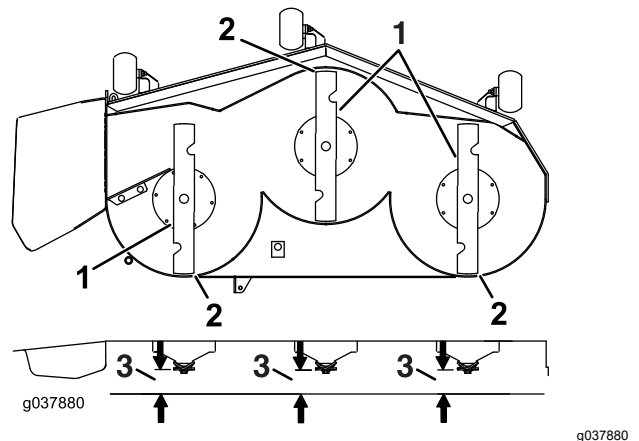

Figure 74
7. Check the front-to-rear blade level (Figure 74). Ensure the front blade tip is lower than the rear blade tip as shown in the block height and rake table. If adjustment is needed, continue with this procedure.